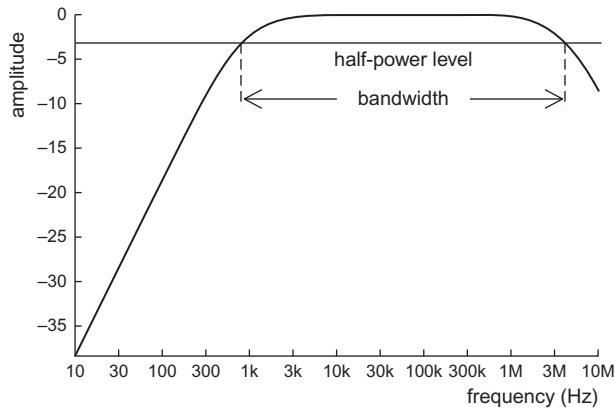

FIGURE 37.2
- 3 Repeat (1) and (2) at lower and higher frequencies, such as 100 Hz, 10 kHz, 100 kHz, 1 MHz and the highest frequency available from the signal generator. Calculate the voltage gain at each frequency.
- 4 Plot a graph to relate gain to frequency. To plot all the frequencies on one graph, it is best to use a logarithmic scale for frequency, like the one in Figure 37.2.
Figure 37.2 shows a typical amplitude–frequency graph taken on a single-transistor general purpose amplifier.